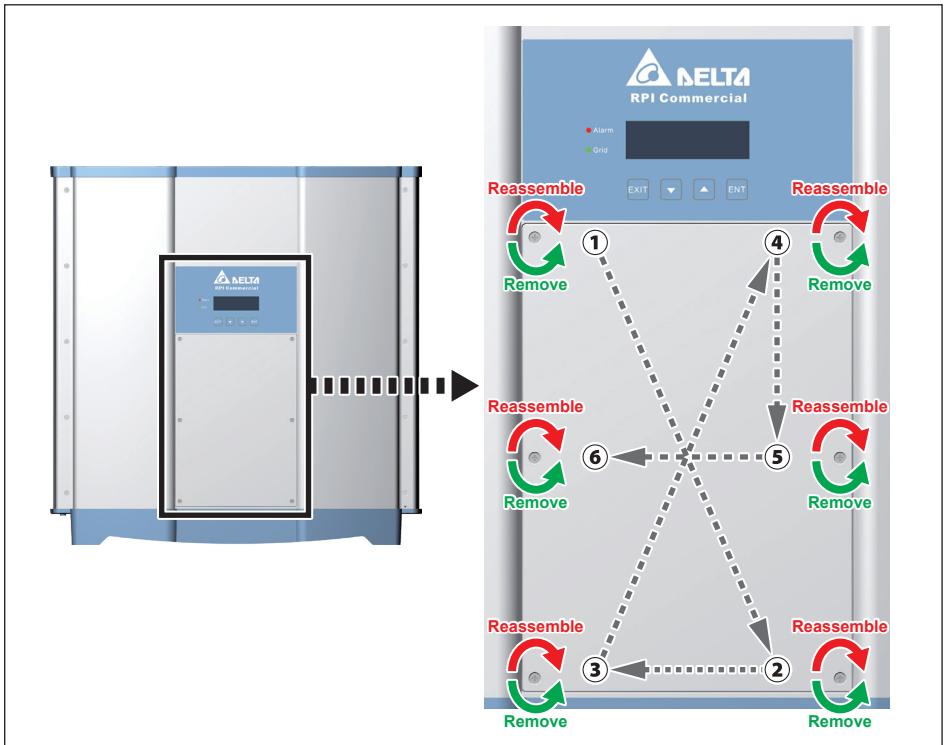

Figure 6-1 : Remove / Reassemble front cover
2. Loosen the 6 screws on the front cover. (**Figure 6-1**)
8. Reassemble the inverter. Please follow the sequence in **Figure 6-1**.